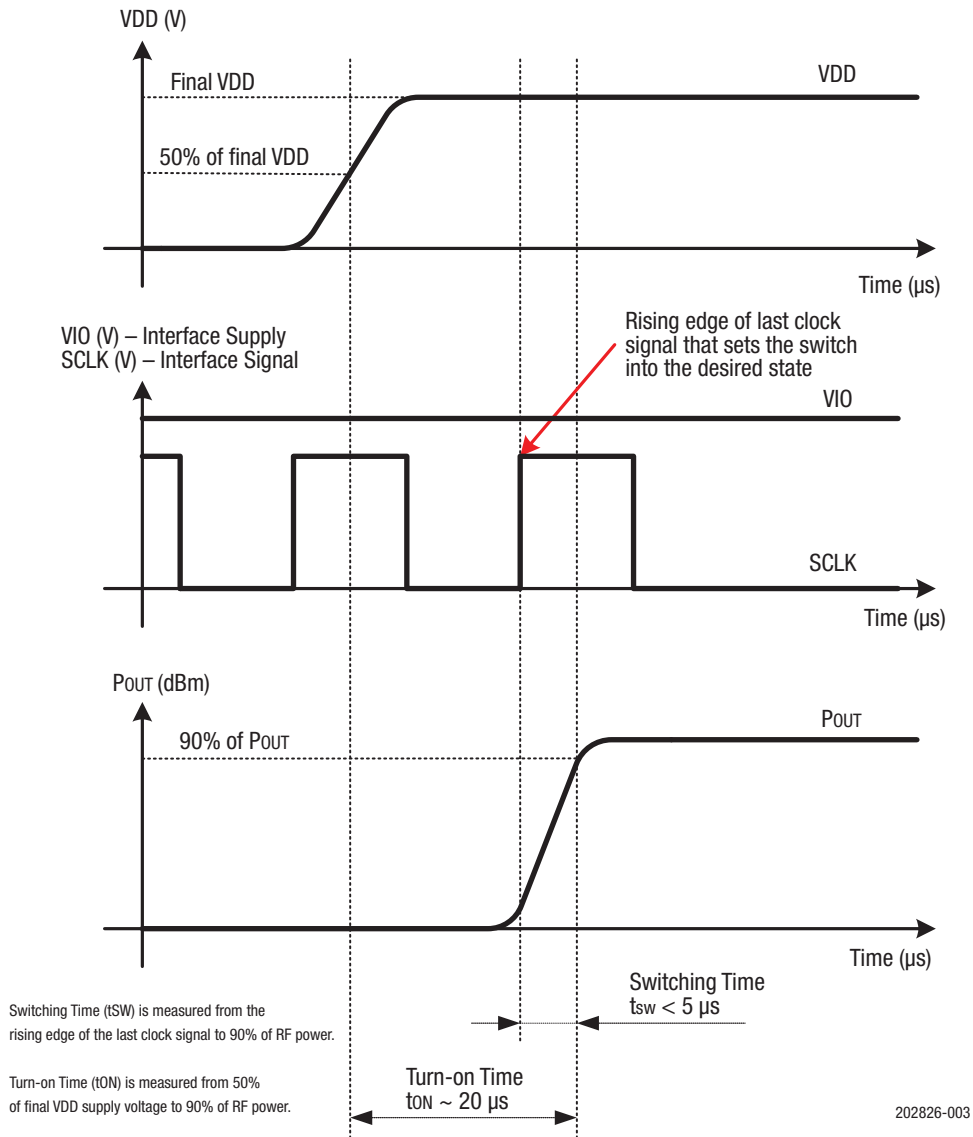

Figure 3. SKY13492-21. Timing Diagram
Figure 3 shows a timing diagram. Figure 4 illustrates the test setup used to measure intermodulation products. This industry standardized test is used to simulate the WCDMA Band 1 linearity of the antenna switch. A +20 dBm continuous wave (CW) signal, f_{FUND} , is sequentially applied to the TRX1 through TRX14 ports, while a –15 dBm CW blocker signal, f_{BLK} , is applied to the ANT port.